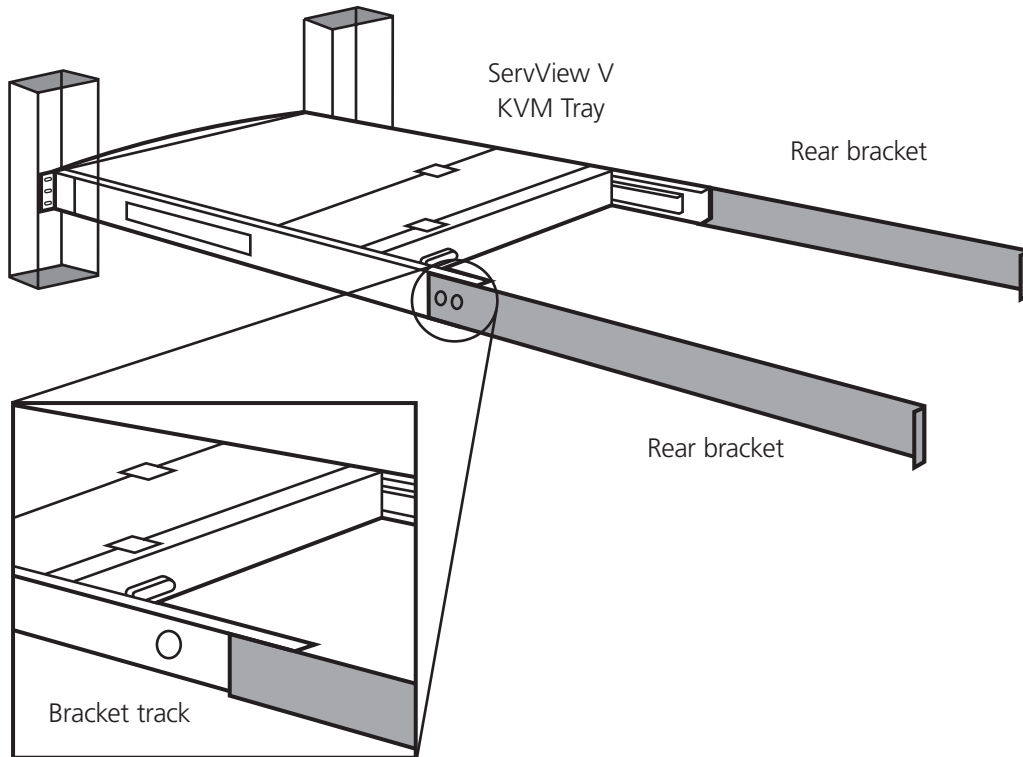

Figure 3-7. Install the rear bracket onto the ServView V KVM Tray's extensions.
- Slide the rear bracket into both sides of the unit. Make sure that the two wheels with screws are inside the bracket's track while sliding in the rear bracket. See Figure 3-7.